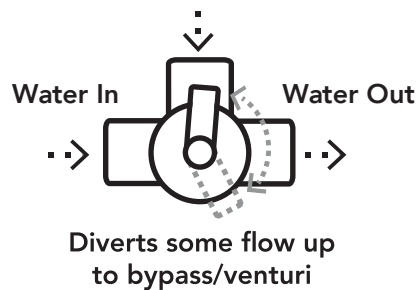

Figure 4: 3-Way Port Valve Configuration
6. To increase the draw with a venturi system, simply adjust or slowly close the valve according to Figure 4.